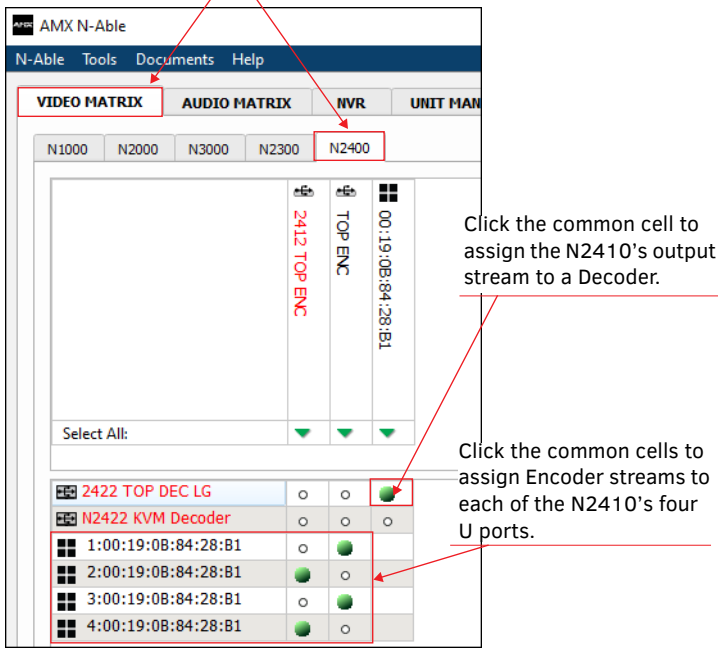

FIG. 5 ASSIGNING STREAMS IN N-ABLE
5. Use the **Video Matrix** in N-Able to assign Encoder and Decoder streams to Windowing Processor as described in FIG. 5.